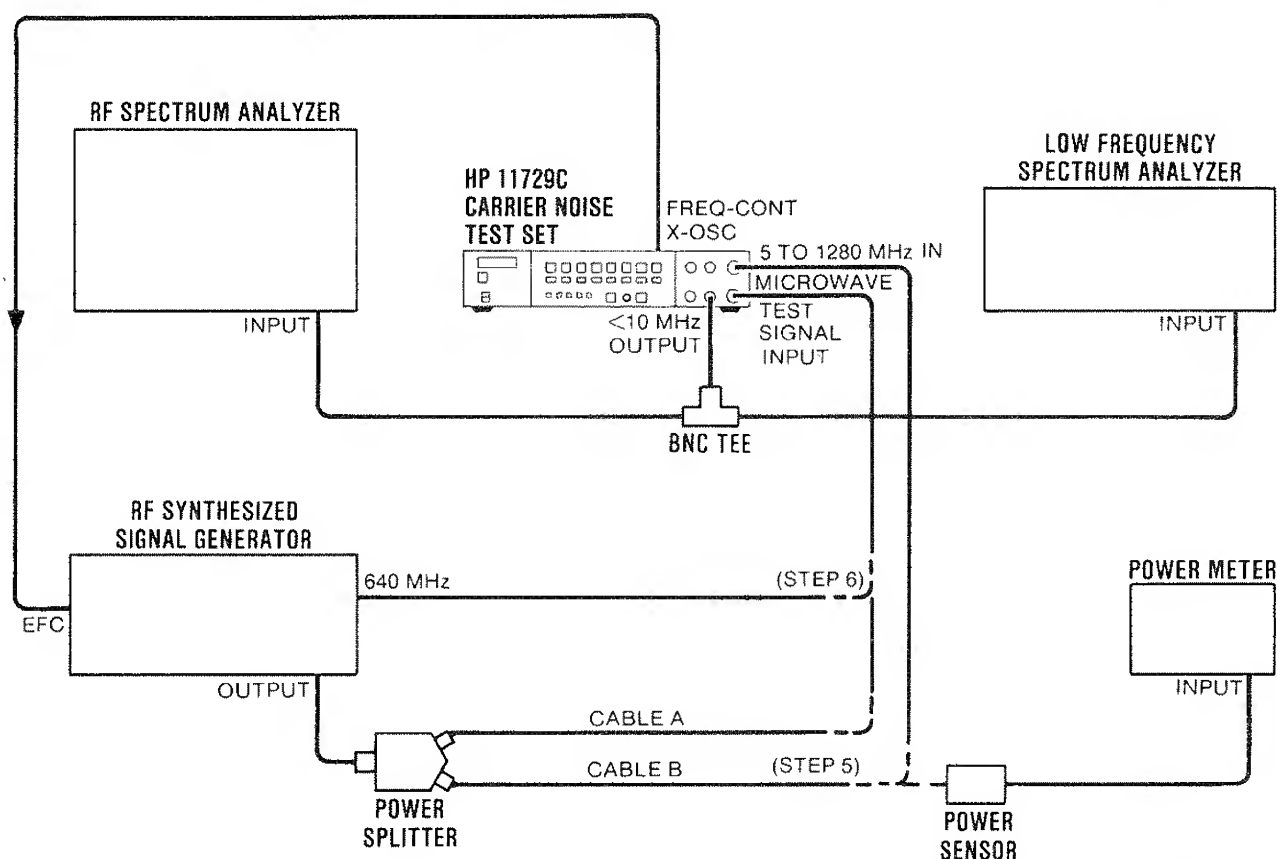

Figure 4-2. Residual Phase Noise Test Setup (Using a test signal of less than 1280 MHz)
The specified lengths of cable A and cable B in Figure 4-2 are critical for obtaining phase quadrature.
1. Connect the instruments as shown in Figure 4-2.